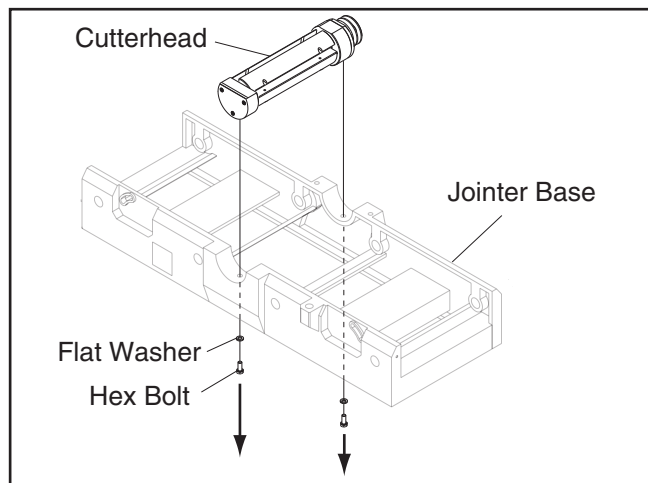

Figure 9. Removing cutterhead fasteners.
17. Reach inside the base and remove the hex bolts and lock washers that secure the cutterhead to the base (see **Figure 9**).